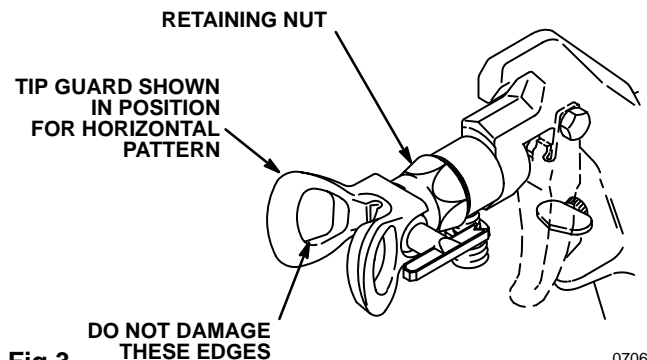

Fig 3
1. To adjust the spray pattern direction, first relieve pressure. Be sure the trigger safety latch is engaged. Loosen the tip guard retaining nut. Turn the tip guard so it is vertical for vertical pattern and horizontal for a horizontal pattern. Tighten the retaining nut. See Fig 3.
Openings in the tip guard are designed to reduce paint buildup on the guard when spraying. Any damage to the sharp edges of the openings causes paint to collect at that area. To reduce the risk of damage, never hang the gun by the tip guard. See Fig 3.